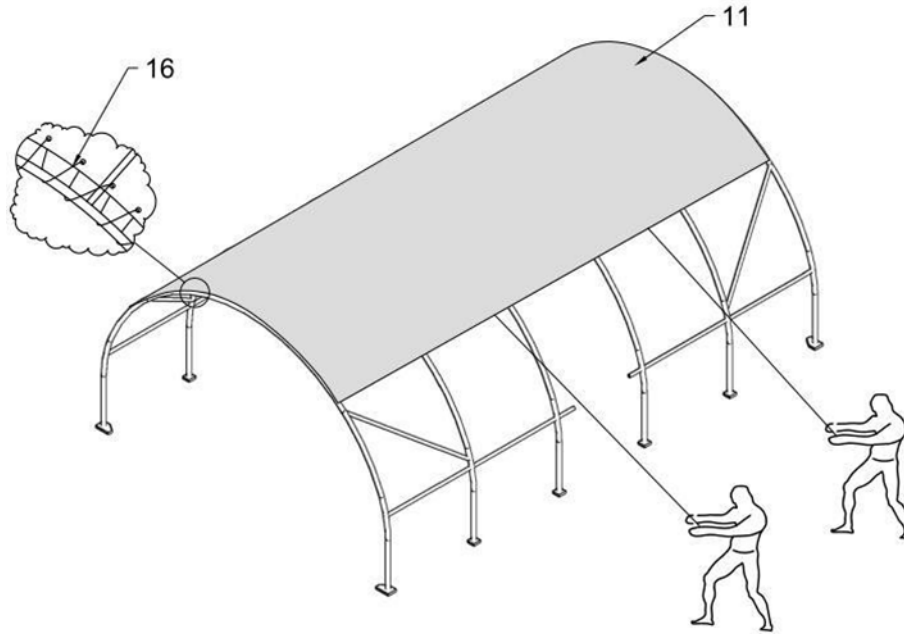

Figure 12
3. Pull the roof cover over the frame evenly, carefully, and slowly as shown in *Figure 12*. Use multiple ropes that have been looped over the top of the frame to pull the roof cover over the frame.
5. With the end flaps flipped back and out of the way, use the knitting rope (component code 16) to lace the roof cover to the arches as shown in *Figure 12*. The recommended procedure is to use separate pieces of rope, which are cut based on your requirement.